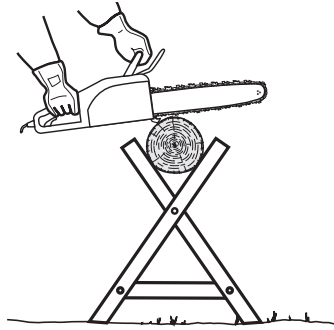

Fig. 36
5. Support small logs on a sawing stand or another log while bucking (Fig. 36).